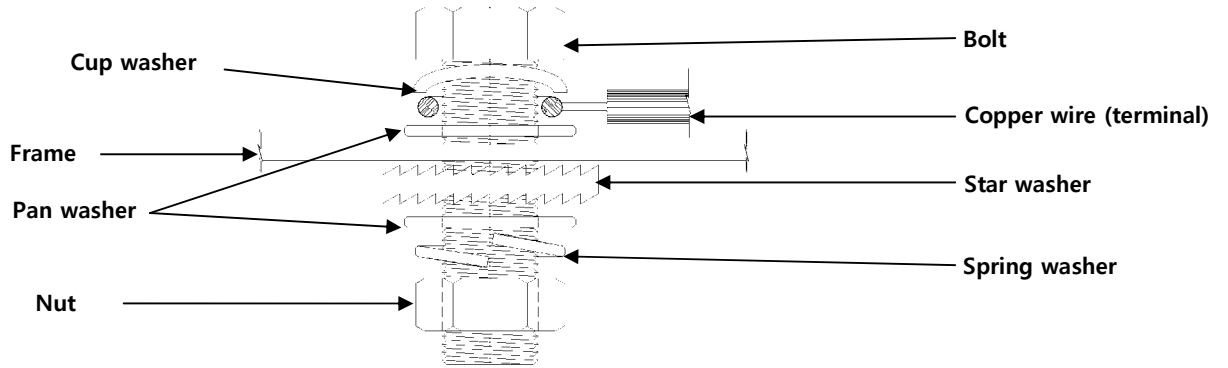

Figure 3 – Basic Grounding Structure
- Insert STS Bolt M6 into frame grounding hole with associated hardware as shown in Figure 3; or